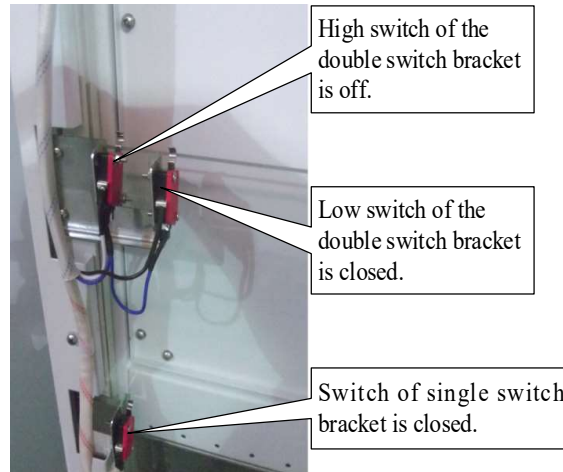
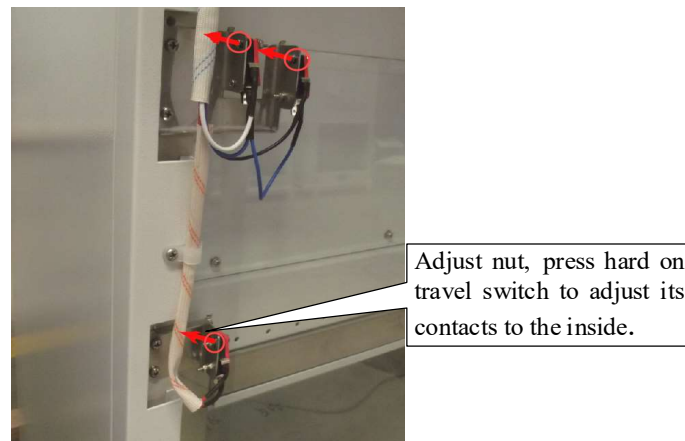

Figure 46
Figure 47
5.2 If the glass door can be stopped in other positions, you need to open the operation panel. Use a multimeter to test whether the micro switch is damaged or short-circuited, and whether the micro switch operating lever is in contact with the glass and can be closed. When the glass is at the nominal height, the high switch of the double switch bracket is off and the micro switch of the low switch and single switch bracket is closed (as shown in Figure 46) (When the glass is not at the nominal height, loosen the nut according to Figure 47 and press hard on the travel switch follow the direction of the arrow to move its contacts to the inside, so that the high switch of the double switch bracket is off and the micro switch of the low switch and single switch bracket is closed) . The front window cannot stop automatically when it reaches the safety height can also be detected according to this clause.